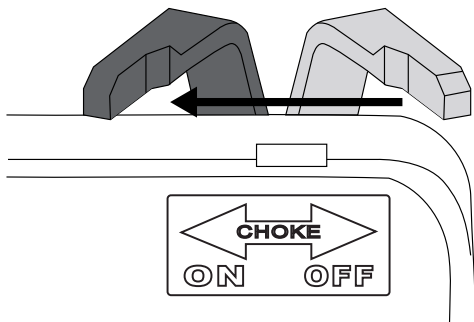

Figure 9 - Choke Lever - ON
4. Move the choke lever to the "ON" position (see Figure 9 below).